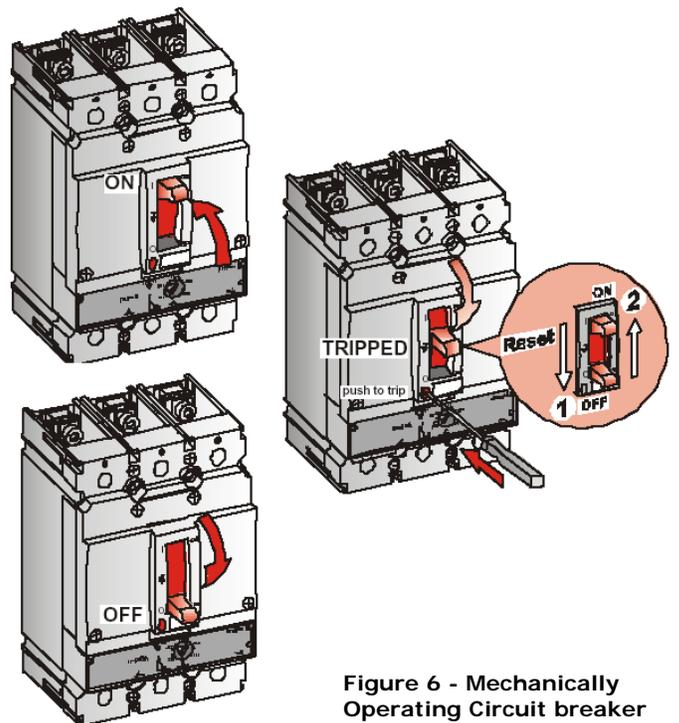

Figure 6 - Mechanically Operating Circuit breaker
To close the breaker from the OFF position moves the handle to the ON position. To close the breaker from the trip position, first move the handle fully to the OFF (reset) position then to the ON position. See Figure 6.
2. Handle position - TRIPPED - reset by moving handle fully to OFF position and then to the ON position, see figure 6.